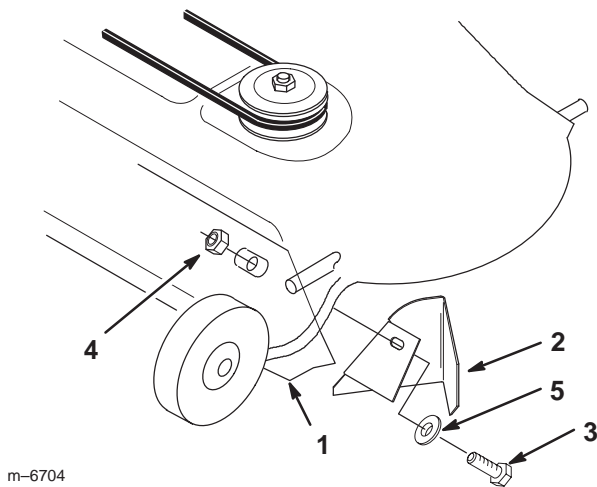

Figure 4
1. Remove the bolt(s) and nut(s) at the end of the grass plate, located inside the mower, near the back edge of the discharge opening (Fig. 4). Discard this hardware.
2. Find the appropriate grass baffle (Fig. 4).
4. For 42 inch mowers, secure the grass baffle with a carriage bolt (3/8 x 1 inch), washer (3/8 inch) and a locknut (3/8 inch) (Fig. 4).